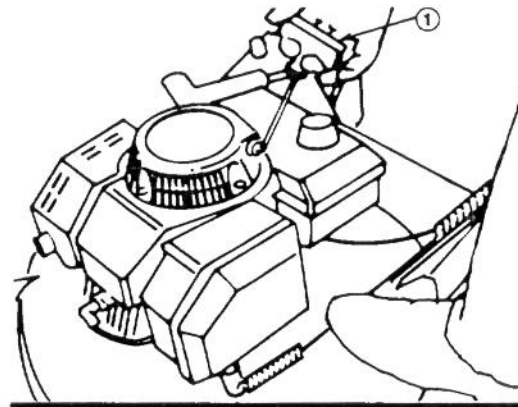

Figure 8
3. Place foot on step at left side of mower housing (Fig. 8) and keep other foot from